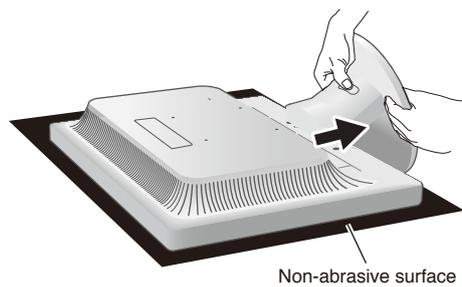

Figure 2
4. With the button pressed in, pull off the base stand (figure 2).